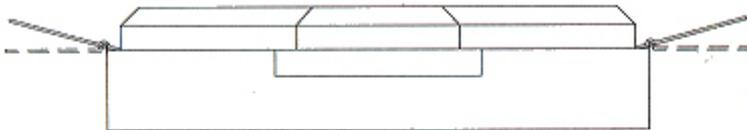

FIG.1
A. Upward Tab Deflection: The isolator or circulator tabs shall not be deflected upward (away from the user trace pad) more than .005" beyond the tab height specification. Tabs which exhibit excessive deflection can be adjusted to the specified tab height, manually, by means of gently pushing downward until the tab is approximately parallel to the bottom device. See Figure 1.